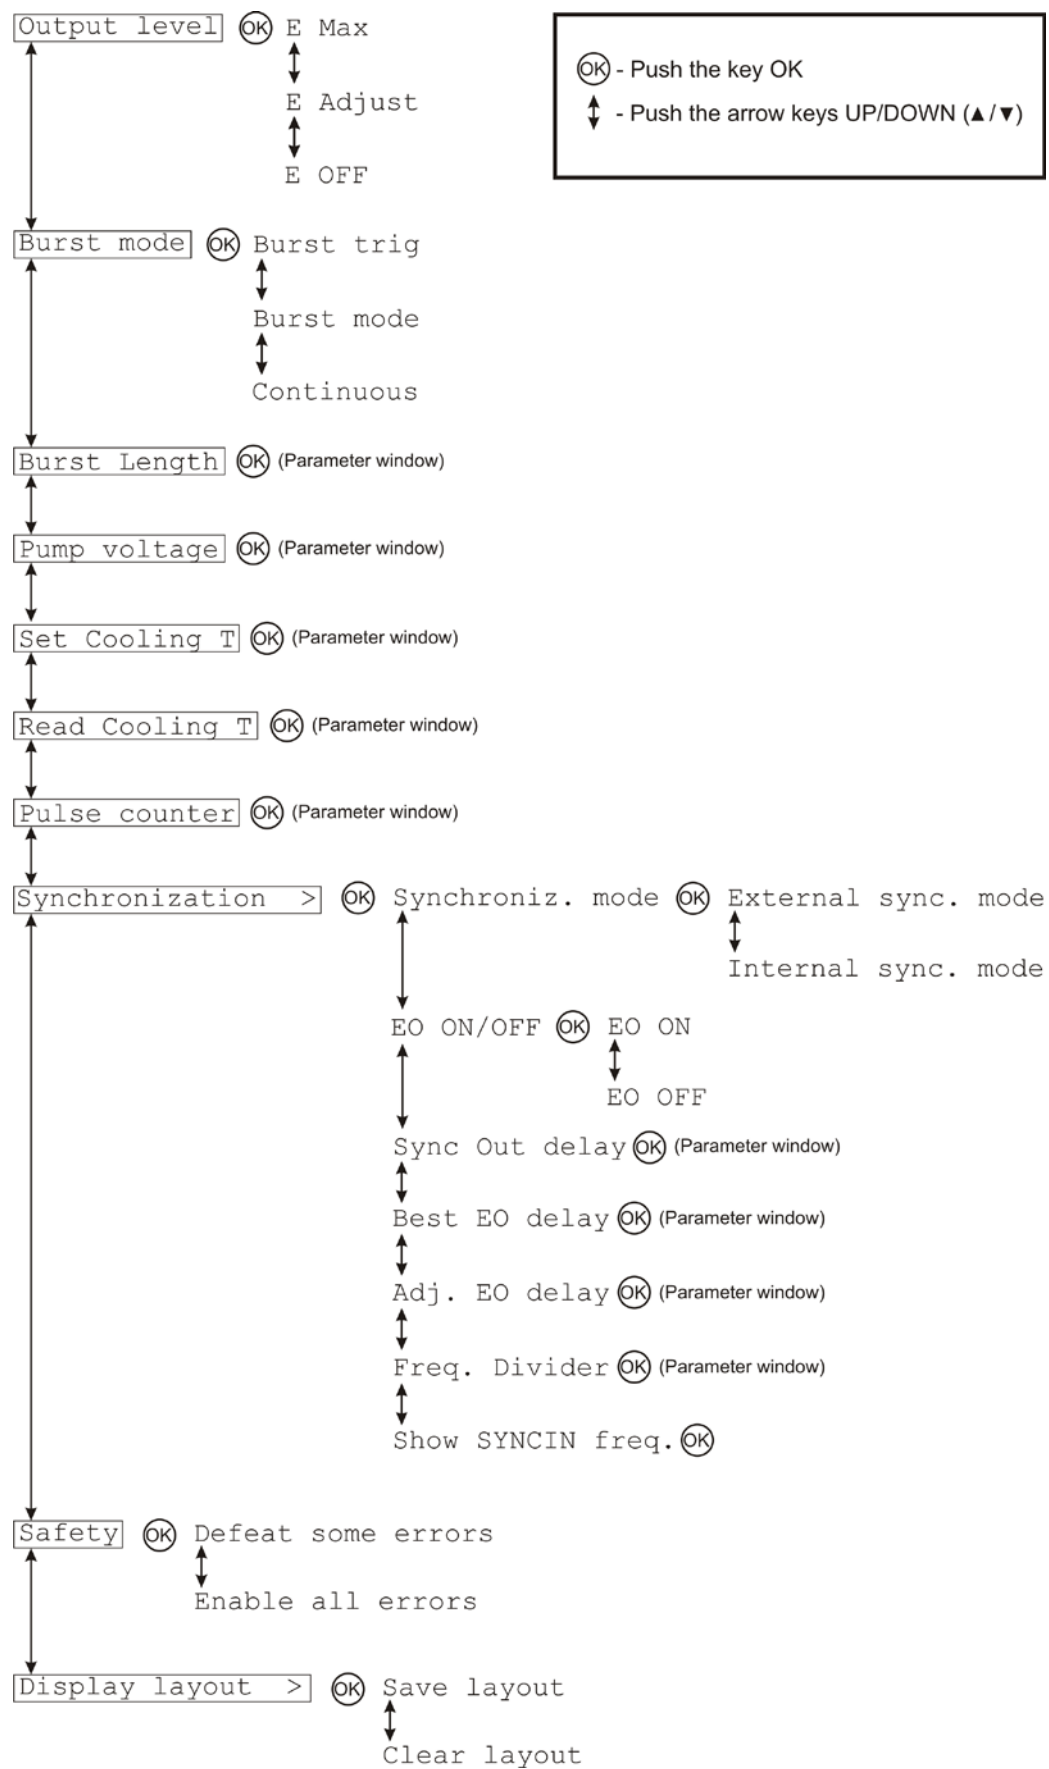

Figure 13 Menu tree
- buttons *UP* (▲) and *DOWN* (▼) when in menu mode move through menu options; in an input fields of the main window they increment/decrement numerical values (see also below). Menu options followed by *OK* sign in Figure 13 are activated by further pressing *OK* button; lowest level menu options not noted by this sign are activated by simply selecting them (like *E Max-E Adj-E OFF*).
The menu tree is shown in Figure 13 below.